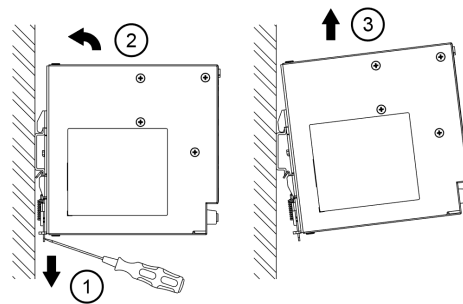

Fig. 8.2 Dismounting
5. To uninstall, pull or slide down the latch with screw driver as shown in Fig. 8.2. Then slide the power supply unit (PSU) in the opposite direction, release the latch and pull out the power supply unit (PSU) from the rail.